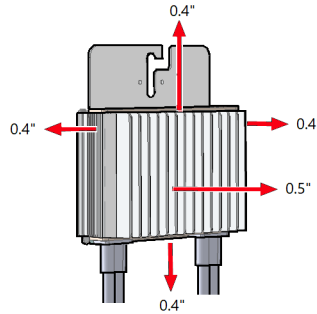

Figure 8: Clearance around the Power Optimizer for heat dissipation
- To allow for heat dissipation, maintain the following clearance (see *Figure 8*):